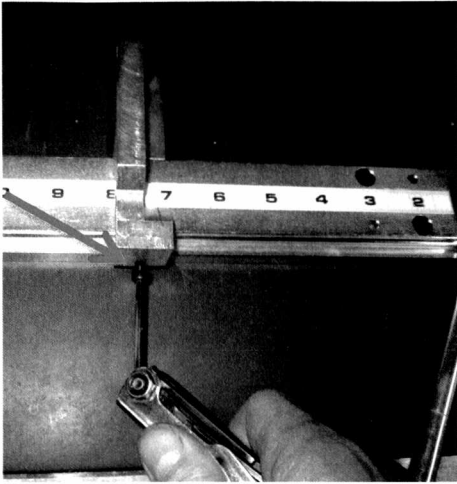

Figure 6.
- 6.) Using the Allen wrench, loosen the set screw on the float stop on the X-1760 "Float Rod Bender" (Figure 6).